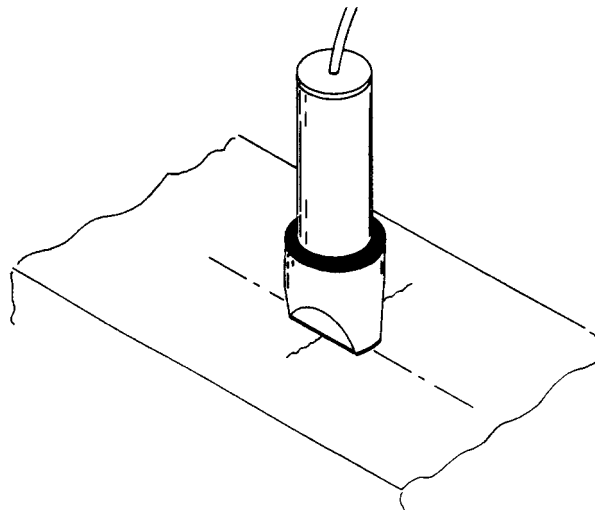

Figure 4 - Suggested measurement configuration
3. Place the MAT-3 handheld probe on the specimen on a non-cracked area and push down until the probe body is in contact with the specimen surface. Indication of a reliable contact is given when the current display on the CGM-7 has stopped adjusting and is within 1mA of the user set current. Additionally the user should wait until a steady reading on the LCD is obtained. Note down the reading. Follow the same procedure for the cracked region, making sure that the voltage contact correctly straddles the crack. Perform the calculation of equation 1 (page 6) where L is 3.2mm. A suitable configuration for the probe and leads is shown in figure 4.